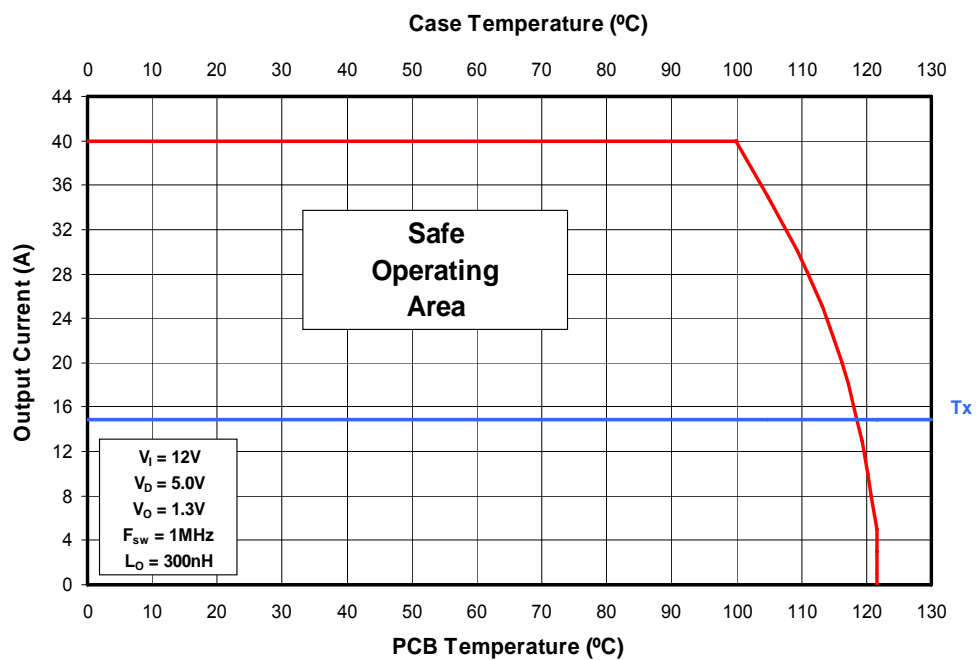

Figure 2 Safe Operating Area Curve
3. Then, add the sum of the SOA temperature adjustments to the T_x axis intercept in figure 2